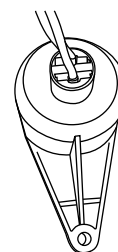

Figure 1a
2. Once the hose adapters are installed, drill (2) 7/64" holes in the OEM under dash louver assemblies as shown in Figure 1a, below.
NOTE: If equipped with the glove box light as shown in Figure 1a, below, modify the plastic glove box using the dimensions provided on Page 33.